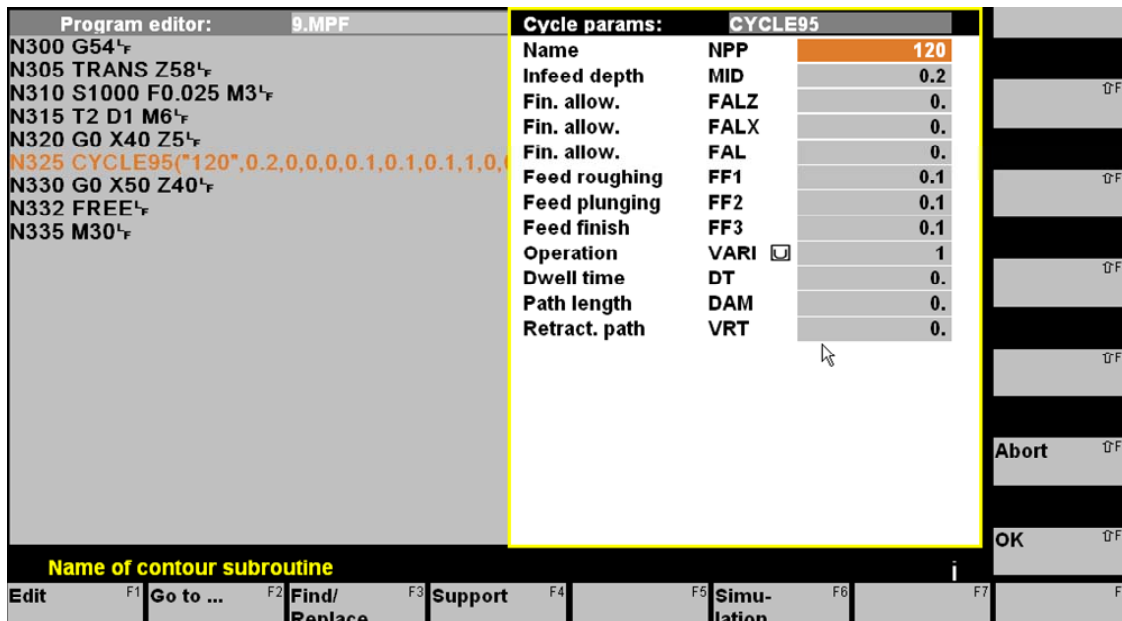

Fig.6.24: Shows the Cycle 95 in the EMCO software
35. Add the missing "O" for the "Retract path" which is missing in the MTS software cycle as shown in Fig.6.24